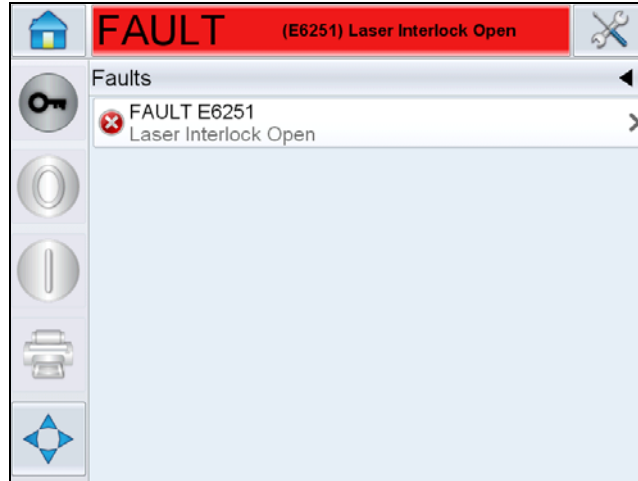

Figure 8-2: Fault Selection
- 1 Touch the red **FAULT** message on the status bar to view the list of faults (see Figure 8-2).